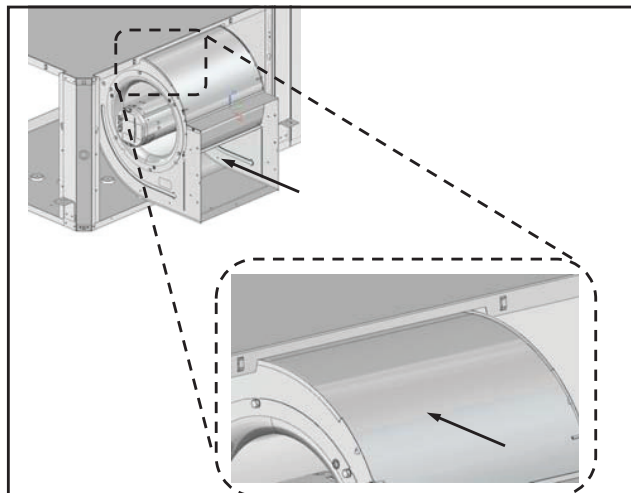

Fig. 52 - Move Blower Back Into Cabinet
12. Move the blower back into the cabinet. See Fig. 52.